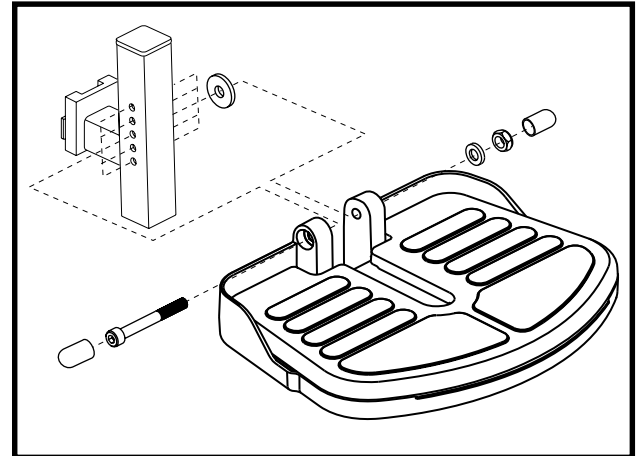

Figure 23. Foot Platform Height Adjustment
1. Remove the hardware from the foot platform bracket. See figure 23.